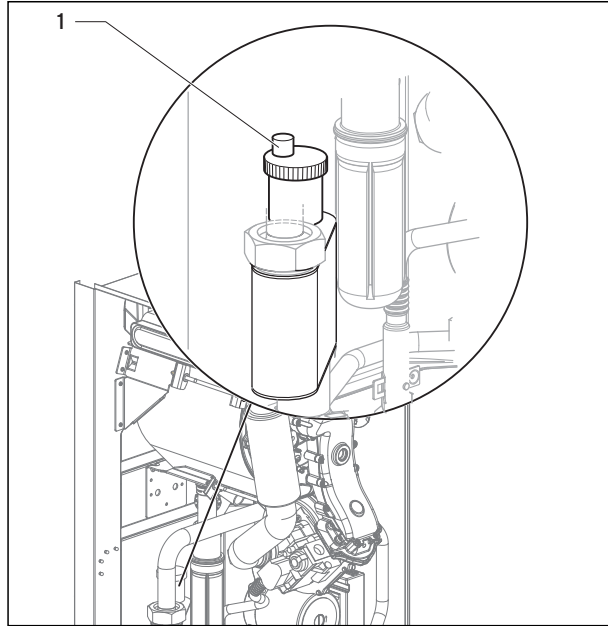

Fig. 5.1 Bleeding the appliance
- Remove the cap of the automatic air vent (1 - fig. 5.1) before filling the heating circuit/storage charging circuit.